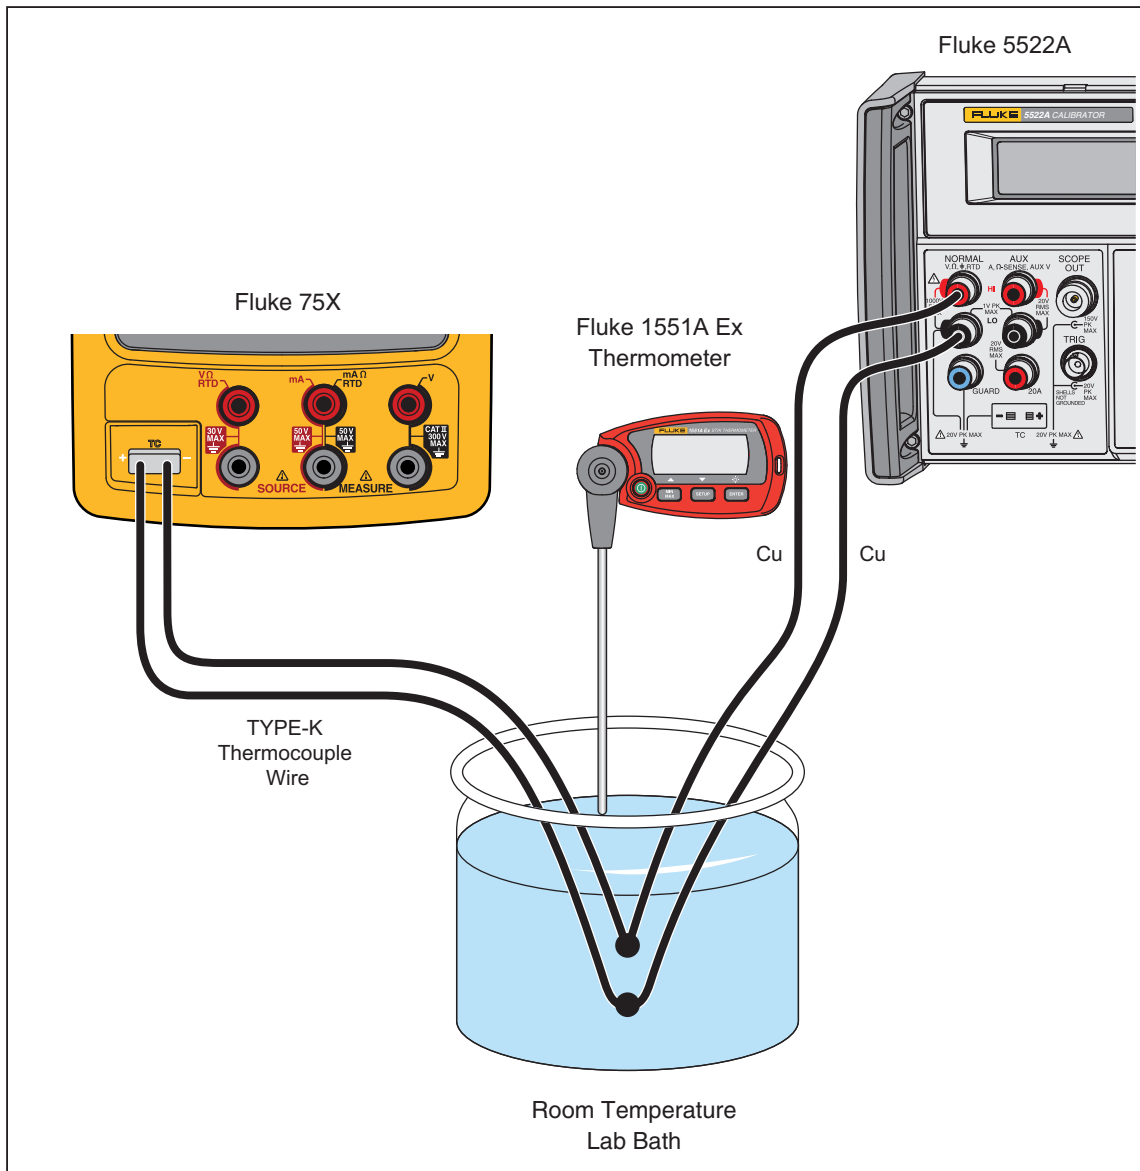

Figure 10. Temperature Measure (TC) Verification Connections
1. Use Type-K thermocouple wire and copper wire to connect the 5522A output to the UUT-TC jack as shown in Figure 10. The Type K-to-Copper junctions must be welded or made with tight screw terminals and submersed in the lag bath (room temperature). Use the standard thermometer (0.1 °C accuracy) to measure the temperature of the lag bath.
1. Use Type-K thermocouple wire and copper wire to connect the 8508A to the UUT -TC jack as shown in Figure 10 (the 8508A is used in place of the 5522A). The type K-to-copper junctions must be welded or made with tight screw terminals and submersed in the lag bath (room temperature). Use the standard thermometer (0.1 % accuracy) to measure the temperature of the lag bath.